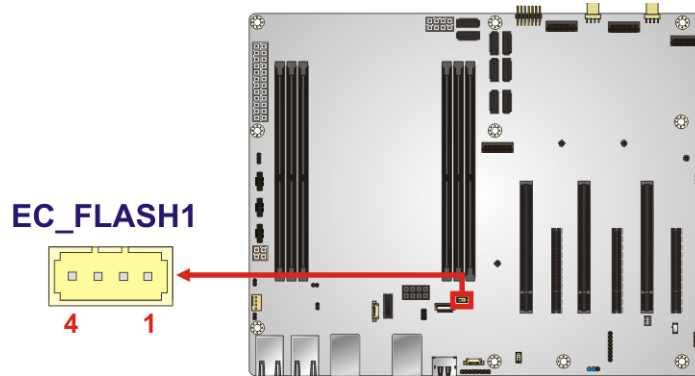

Figure 3-21: SMBus EC FW Programming Connector Location
- CN Location:** See **Figure 3-21**